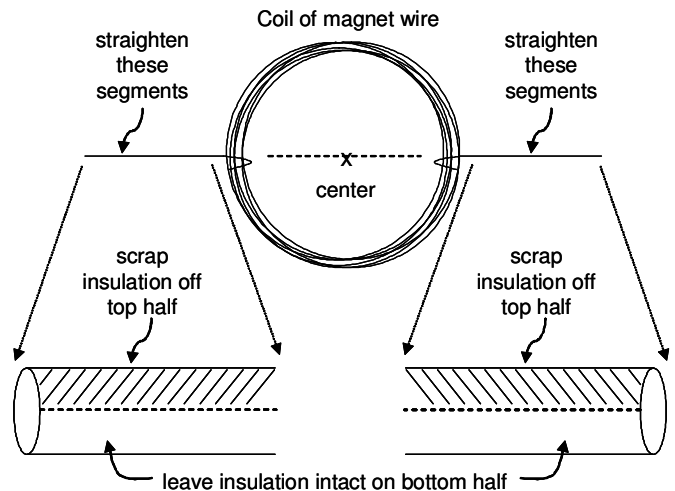

Figure 1
1. Construct a coil of wire by wrapping the wire around the battery 12 times, leaving about 6 inches at the starting end. Cut the wire, leaving about 6 inches at the other end, and slide the coil off the battery while keeping it from coming apart. Wrap the protruding ends on either side twice around the coil to hold the coil together (see Figure 1, top). Cut the protruding ends so they are each about 1 inch long, and straighten them so they point in opposite directions from the center of the coil, as shown in Figure 1 (top). Reshape the coil and the protruding ends so that the coil is balanced if supported by the protruding ends.
2. The magnet wire is coated with an electrical insulator that can be easily scrapped off with one of the cutting edges of a pair of scissors (or a knife). You will need to scrap off the insulation on the **top side of each** of the two protruding segments of wire for the entire length of each protruding segment as shown in Figure 1 (expanded view of wire at the bottom of the figure).